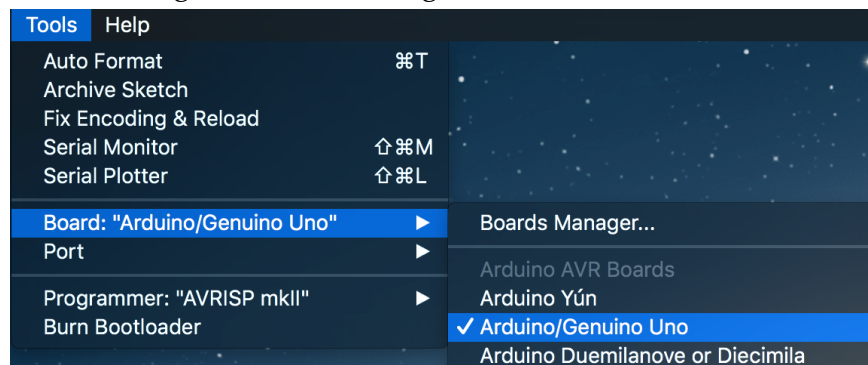

Figure 6. Arduino IDE Port Settings
b. Select the right Serial Port (Figure 6.).